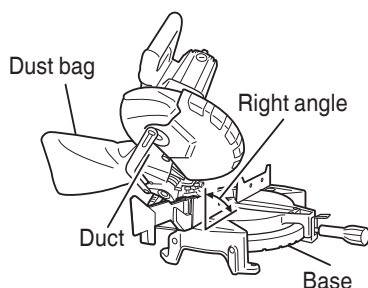

Fig. 27
(2) During bevel and compound cutting, attach the dust bag at a right angle to the base surface as shown in Fig. 27.